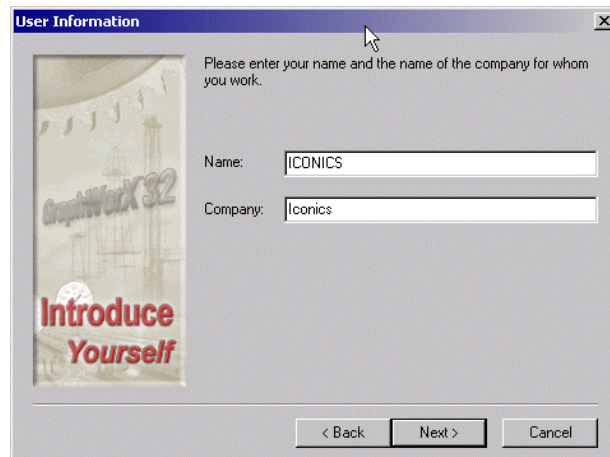

Figure 2.15
5. Please enter your **Name** and **Company Name** on the **User Information** window, shown in **Figure 2.15**. Click on **Next**.